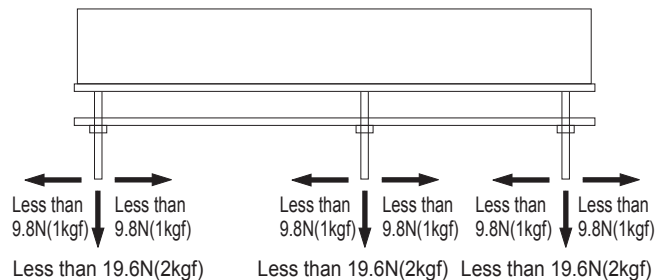

Fig.9.1 Stress on to the pins
- When too much stress is applied on the input/output pins of the unit, the internal connection may be weakened. As below Fig.9.1, avoid applying stress of more than 9.8N (1kgf) on the pins horizontally and more than 19.6N (2kgf) vertically.